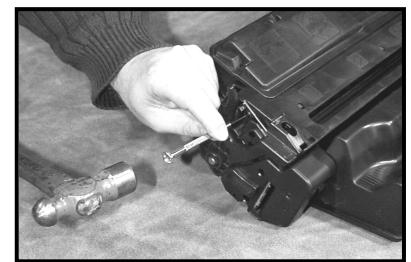

Figure 3
- b. Use a punch to drive the pins into the cartridge (fig. 3). It might be difficult if they have never been punched in before. **Note:** There are blockers which prevent the pins from being pushed in easily. The longer pin is located on the drive gear side.